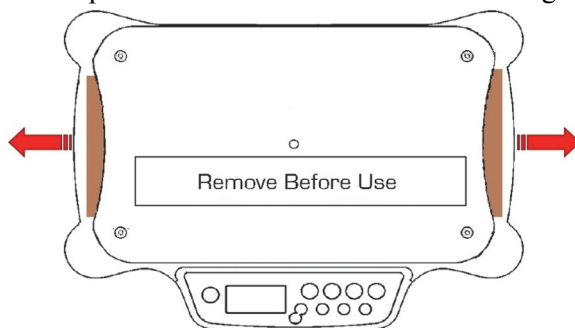

Figure 3-2. Angular Transport Tab Location
6. Remove the two angular transport tabs from the scale as shown in Figure 3-2.